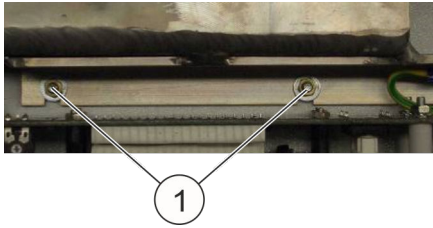

Fig. 89: Tank fastening
14. ▶ Remove the M3 nuts (Fig. 89 /1) of the tank fastening with a 5.5 mm socket wrench.